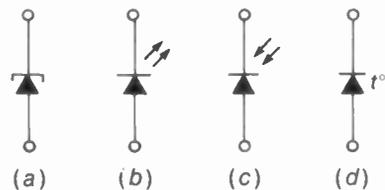

FIGURE 7-27 SCHEMATIC SYMBOLS FOR (a) TUNNEL DIODE; (b) LIGHT-EMITTING DIODE (LED); (c) PHOTOSENSITIVE DIODE; (d) TEMPERATURE-SENSITIVE DIODE.
**Special diodes.** Schematic symbols are shown in Fig. 7-27 for additional types of semiconductor diodes. In a is the *tunnel diode*, or Esaki diode, named after the man who discovered that heavy doping can cause a tunneling effect of charge carriers through the depletion zone at the junction. Because of its negative resistance characteristic, the tunnel diode can be used as an amplifier or oscillator at microwave frequencies.